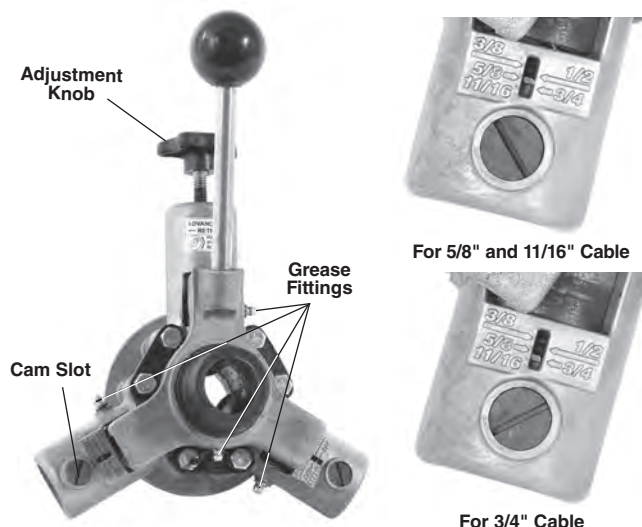

Figure 9 – Checking AUTOFEED Unit Setting
For proper operation, the AUTOFEED unit must be adjusted to the correct setting for the cable it is being used with. The setting of the unit can be checked by looking at the front of the unit, see *Figure 9*. The slot aligns with the cable size.
2. Use a flat blade screwdriver in cam slot to rotate both cams (see *Figure 9*). If using $\frac{11}{16}$ " cable, use the $\frac{5}{8}$ " setting.
5. If machine is equipped with an AUTOFEED unit, confirm that it is set to proper size for the cable being used (see *Figure 9*).